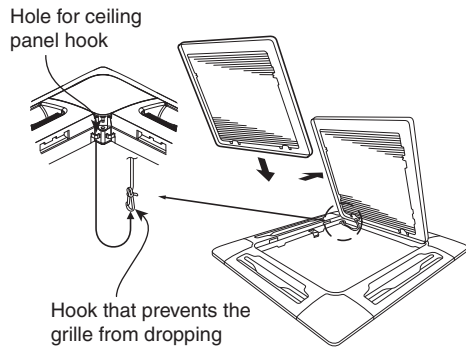

Fig. 7-24
- **Be sure to attach the safety cord to the ceiling panel unit. This keeps the air intake grille from accidentally dropping. (Fig. 7-24)**